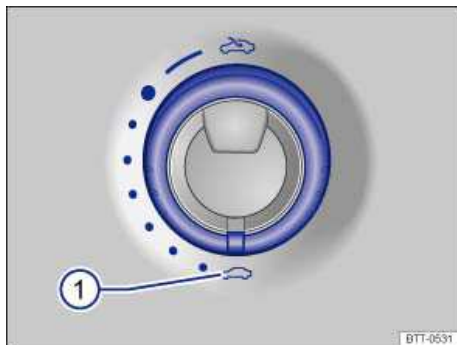

Fig. 49 In the headliner: Sunroof rotary switch.
- The switch must be rotated to the "Closed" position ⇒ fig. 49 \(1\).